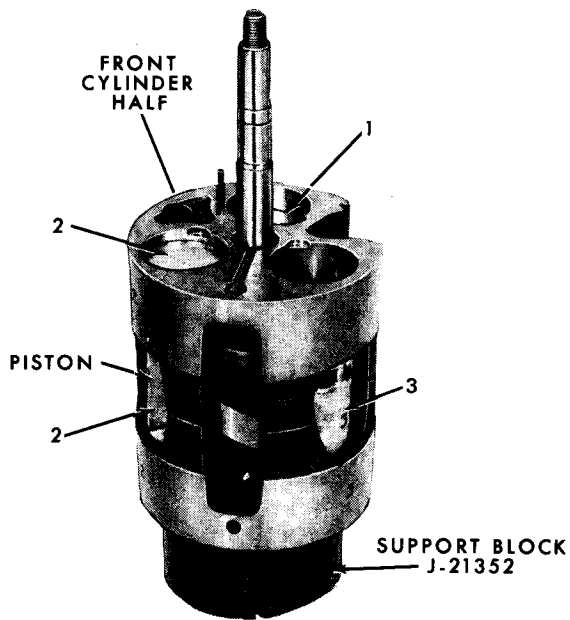

Figure 100—Numbering Piston and Cylinder Bores
2. Identify by pencil mark, or some other suitable means, each piston, numbering them as 1, 2, and 3 (figure 100).